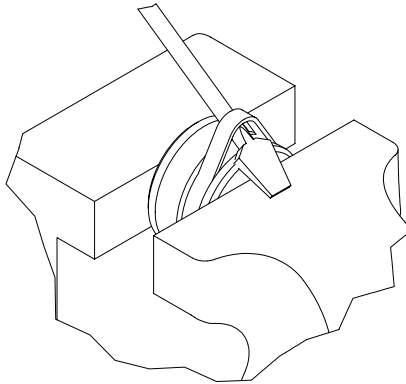

Figure 5-6, Piston Seal
7. Carefully pry up on the piston seals using a blunt tip screw driver. Be careful not to scratch the seal grooves. Cut the seals to remove from the piston. (Figure 5-6)